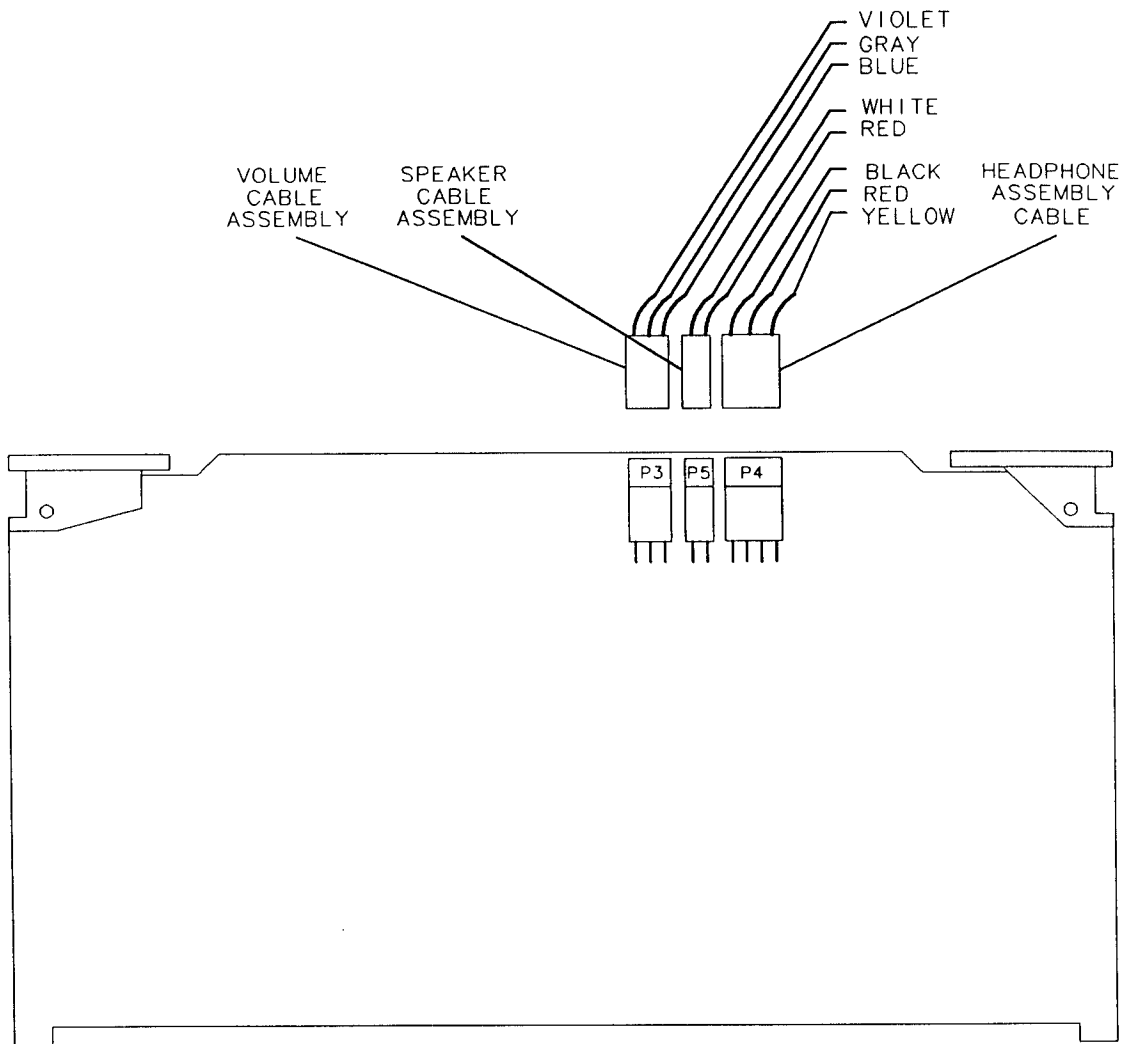

Figure 8. Attaching Cables to Board Assembly
22. Attach the volume cable assembly (violet, gray, blue) to the quasi-peak detector/demodulator board at P3. (See Figure 8.)